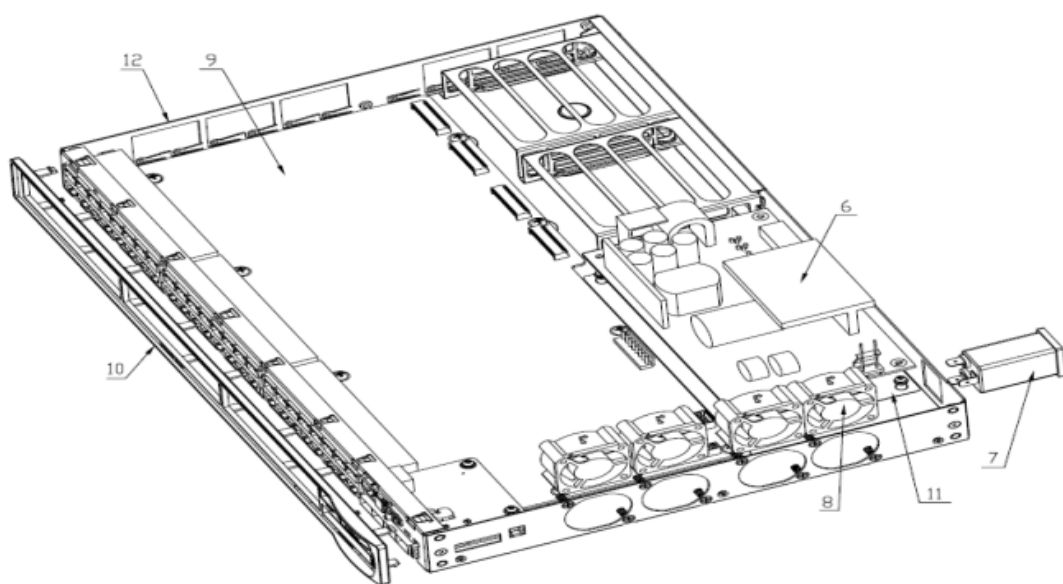

Figure 4 Treatments to the product (remove cover)
5. Unscrew the screws on cover 5, and then remove cover 5 according to figure 4.